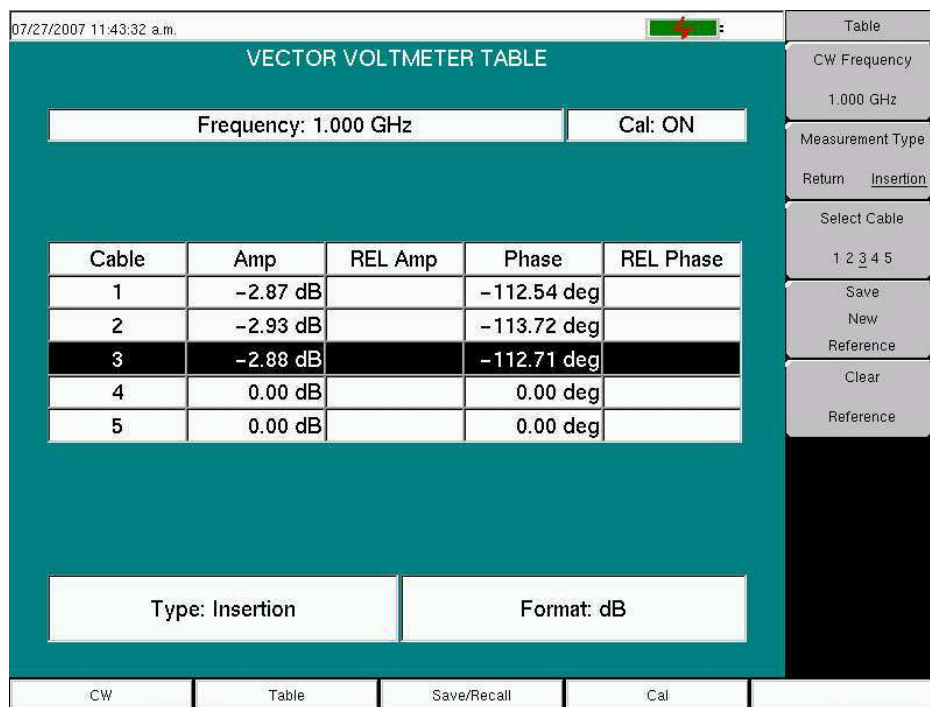

Figure 8-6. Vector Voltmeter Measurement Table
5. Connect the DUT for measurement. The display appears similar to that shown in Figure 8-6.